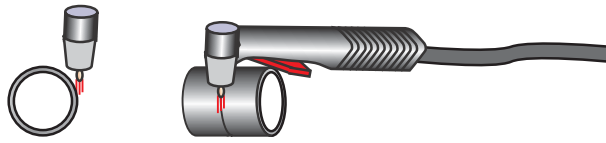

FIGURE 22-49 Cutting pipe with a plasma torch.
- Follow the setup and starting of the plasma procedures as outlined in Project 22-1 but hold the torch so it is pointed parallel to the round piece and in line with the line to be cut, Figure 22-49.